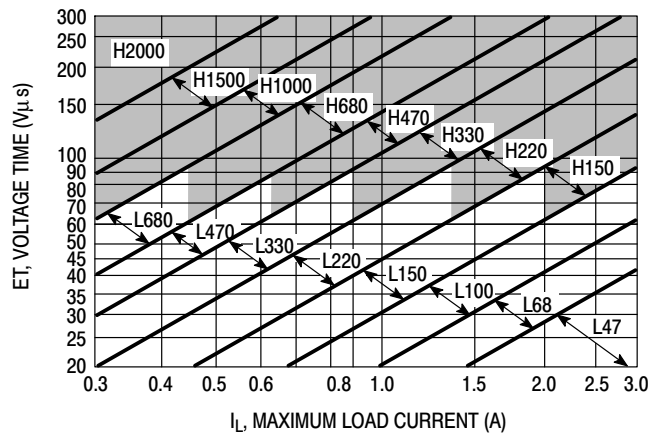

Figure 22. LM2576-ADJ
4. Inductor Selection (L1) A. Use the following formula to calculate the inductor Volt x microsecond [V x μs] constant: $E \times T = \left(V_{in} - V_{out} \right) \frac{V_{out}}{V_{in}} \times \frac{10^6}{F[\text{Hz}]} [V \times \mu\text{s}]$ B. Match the calculated E x T value with the corresponding number on the vertical axis of the Inductor Value Selection Guide shown in Figure 22. This E x T constant is a measure of the energy handling capability of an inductor and is dependent upon the type of core, the core area, the number of turns, and the duty cycle. C. Next step is to identify the inductance region intersected by the E x T value and the maximum load current value on the horizontal axis shown in Figure 25. D. From the inductor code, identify the inductor value. Then select an appropriate inductor from Table 2. The inductor chosen must be rated for a switching frequency of 52 kHz and for a current rating of $1.15 \times I_{Load}$. The inductor current rating can also be determined by calculating the inductor peak current: $I_{p(\text{max})} = I_{Load(\text{max})} + \frac{(V_{in} - V_{out}) t_{on}}{2L}$ where t_{on} is the "on" time of the power switch and $t_{on} = \frac{V_{out}}{V_{in}} \times \frac{1.0}{f_{osc}}$ For additional information about the inductor, see the inductor section in the "External Components" section of this data sheet.	4. Inductor Selection (L1) A. Calculate E x T [V x μs] constant: $E \times T = (25 - 8.0) \times \frac{8.0}{25} \times \frac{1000}{52} = 80 [V \times \mu\text{s}]$ B. E x T = 80 [V x μs] C. $I_{Load(\text{max})} = 2.5 \text{ A}$ Inductance Region = H150 D. Proper inductor value = 150 μH Choose the inductor from Table 2.